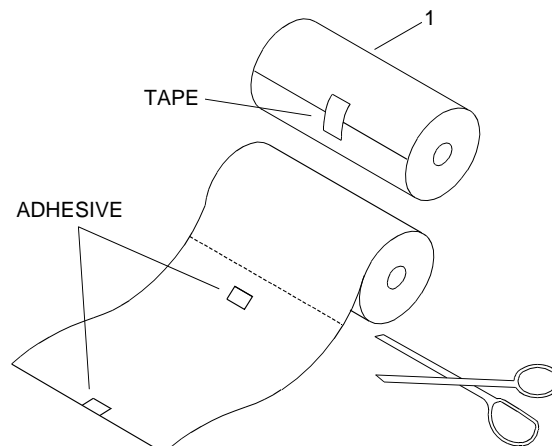

Figure 4. Paper Roll
1. Obtain a new paper roll (figure 4, item 1).